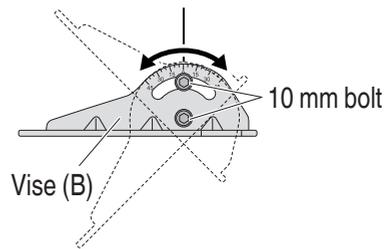
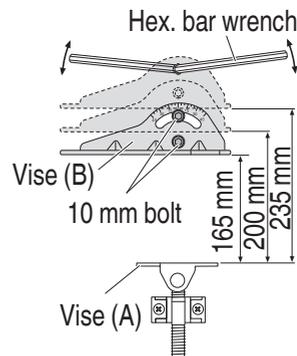

Fig. 7
Fig. 8
- Cutting at angles (Fig. 7)
- Loosen the two M10 hexagon socket head bolts on the vise (B), then set the working surface on the vise-jaw at any angles of 0°, 30°, or 45°. Upon completion of setting, securely tighten the two M10 hexagon socket head bolts.
- Moving the stationary vise-jaw (Fig. 8)